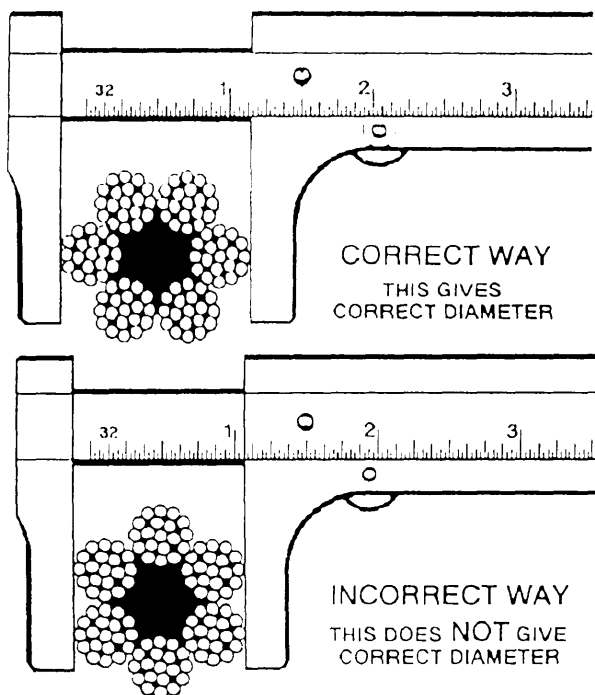

Figure 12-37.—Measuring wire rope.
5. Wire rope wear. Measure wire rope with wire rope calipers (fig. 12-37) to check for wear accurately. Replace why rope that has wear of one third of the original diameter of outside individual wires. A crescent wrench can be used as an expedient means to measure wire rope.